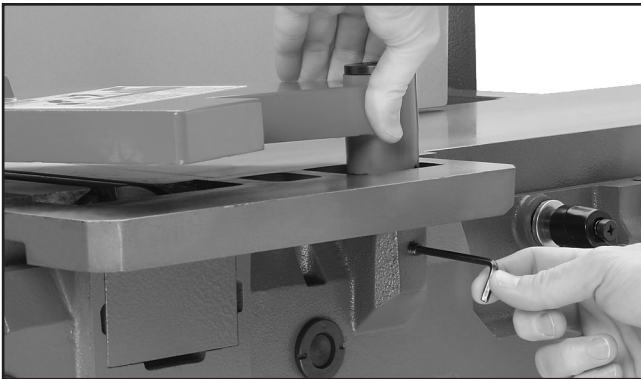

Figure 17. Installing the cutterhead guard.
2. Insert cutterhead guard shaft so the flat is facing the set screw, then tighten the set screw against the shaft (see **Figure 17**), keeping the guard approximately 1/8" off the table.